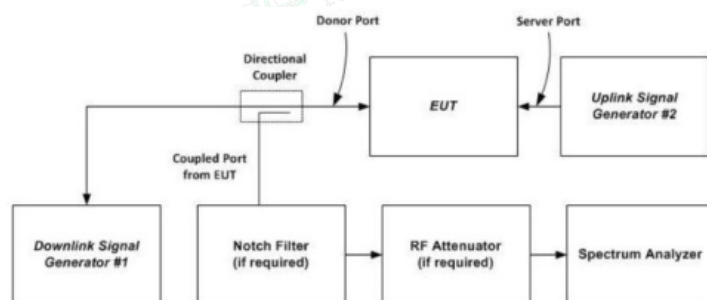

Figure 5-Variable gain instrumentation test setup
- Connect the EUT to the test equipment as shown in Figure 5 with the uplink output (donor) port connected to signal generator #1. Affirm that the coupled path of the RF coupler is connected to the spectrum analyzer.
- Measure the maximum channel power and compute maximum gain when varying the signal generator #1 output to a level from -90 dBm to -20 dBm , as measured at the input port (i.e., downlink signal level at the booster donor port node of Figure 5), in 1 dB steps inside the RSSI-dependent region, and 10 dB steps outside the RSSI-dependent region. Report the six values closest to the limit, including at least two points from within the RSSI-dependent region of operation. See gain limit in charts in Appendix D for uplink gain requirements. Additionally, document that the EUT provides equivalent uplink and downlink gain, and when operating in shutoff mode that the uplink and downlink gain is within the transmit power off mode gain limits.
Variable uplink gain timing is to be measured as follows, using the test setup shown in Figure 5.